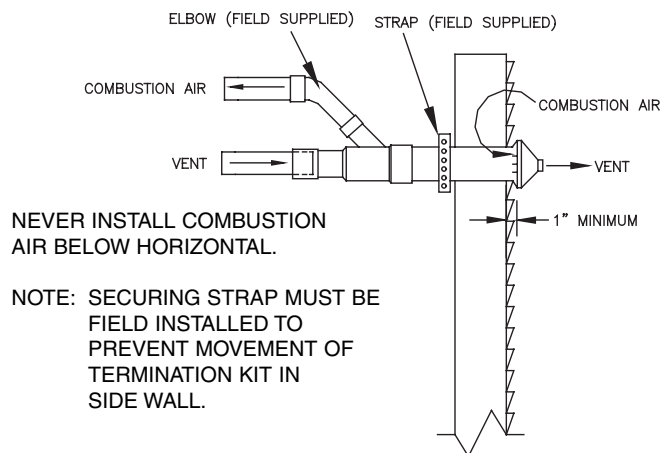

Figure 6: Sidewall Attachment
6. Secure assembly to structure as shown in Figure 6, using field supplied metal strapping or equivalent support material.
7. Cement air inlet vent pipe and exhaust vent pipe to concentric vent termination assembly. See Figure 6 for proper pipe attachment.